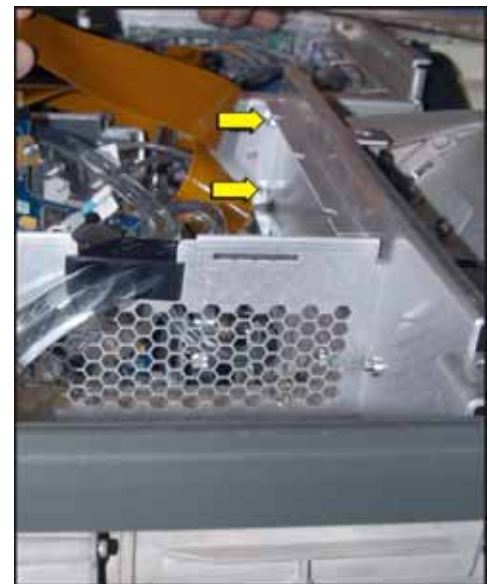

Figure 5-77 Remove Firewall
6. Using the 3mm hex key provided with the projector, remove the two screws securing the firewall, which separates the lamp housing and the light engine (**Figure 5-77**).